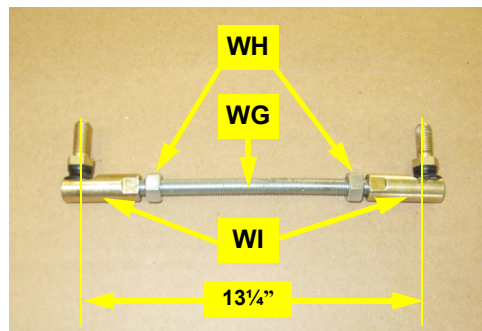

Figure 1d: Assembled threaded rod link
- d. Screw the lock nuts **WH** and the swivel rod ends **WI** onto rod **WC** to achieve a center-to-center stud measurement of 13¼" (Figure 1d). Leave **WH** loose until you complete linkage adjustment at step 2.
- e. Install switch SD in its bracket SC. Using hardware SF install the bracket/switch assembly (Figure 1d). You will later connect SD's cable to ECU cable EF.
- f. Align switch SD's sensor with the magnets SA and adjust the sensor face to 1/8" to 1/4" from the magnets (Figure 1d inset).
Figure 1d with inset: Installed switch bracket, switch, and adjusted sensor